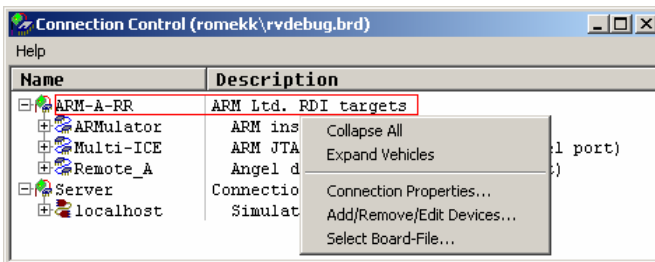

FIGURE 4 The Connection Control dialog box.
2. Select the Add/Remove/Edit Devices option from the right-click popup menu (Figure 4).